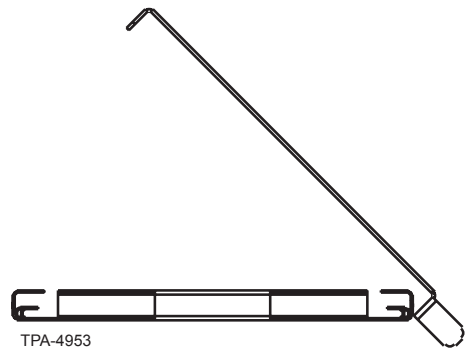

Figure 12
**Step 6:** Make sure all ribbons are below the fiber retaining tabs. Align the hole in the cover with the hole in the tray. Snap the cover onto the tray (Figure 12).
- Step 6:** Make sure all fibers are below the fiber retaining tabs. Align the hole in the cover with the hole in the tray. Snap the cover onto the tray (Figure 12).